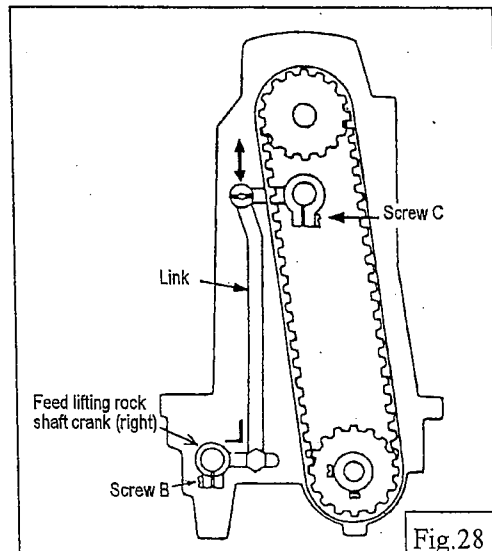

Fig.28
- F If the connection is not at right angle, remove the back cover, loosen screw C and move the right link to connect the right feed lifting rock shaft with the link at right angle. (Fig.28)